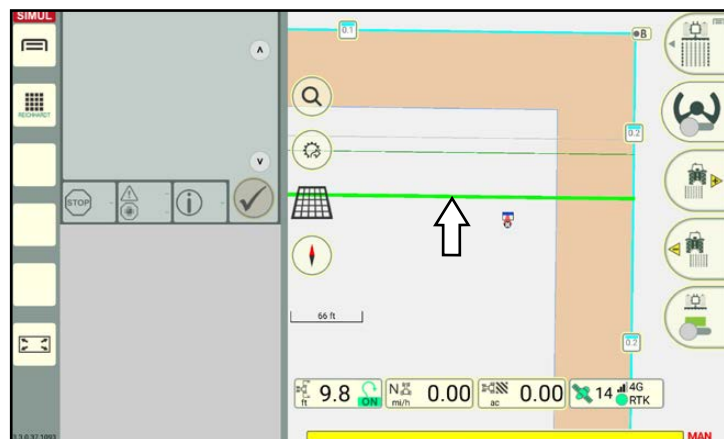

Fig. 284: Prewarning limit (light green trigger line)
- When in contact with the prewarning limit (light green trigger line in SMART GUIDE; see Fig. 284)